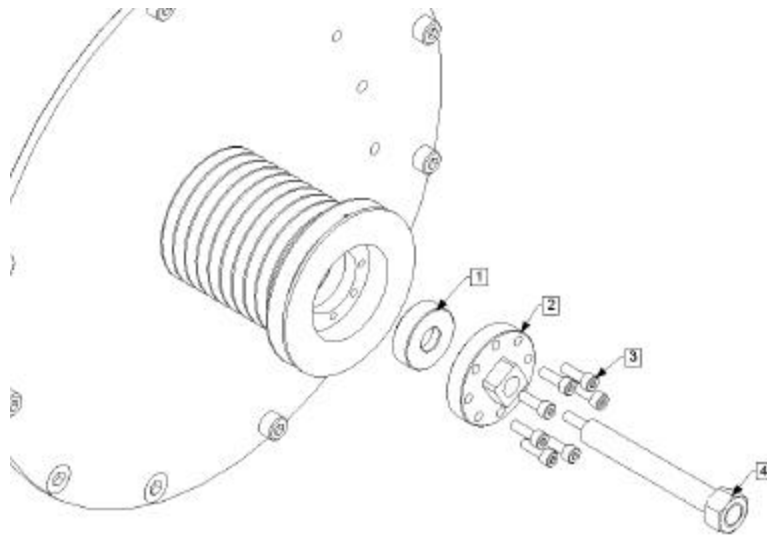

Fig. 35 — Attaching the PTO Bearing Puller to the Drive Plate Assembly
- ◆ Remove the Cap Screws and End Cap (Items 1 & 2, **Fig. 35**).
- ◆ Remove the Splined Drive Cap Screws and the Drive Cap (Items 3 & 4, **Fig. 35**).
- ◆ With a sharp pointed awl or similar tool, remove the flat wound spiral retaining ring (Item #5, **Fig. 35**)
- ◆ Attach the PTO Bearing Puller in place of the Splined Drive Cap, as shown in **Fig. 35**.
- ◆ Insert the Puller Alignment Bushing (1).
- ◆ Attach the Puller Cap (2) with the Drive Cap Screws (3).
- ◆ Thread in the PTO Bearing Puller Bolt (4).